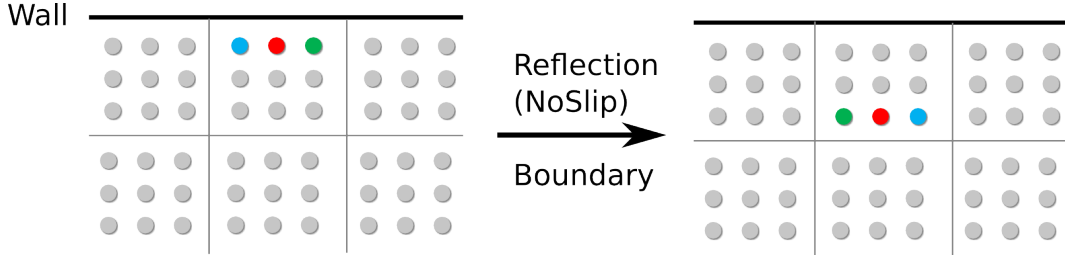

Figure 4: Streaming for reflection (no-slip) boundaries
- At the north and south boundaries, we apply reflection (no-slip) boundary conditions which enforce zero velocity at the wall. The update rule for these boundary cells is shown in Fig. 4 and is formally given as:
where \bar{q} is the opposite lattice direction of q , such that $\vec{c}_{\bar{q}} = -\vec{c}_q$. In this formula, the cell \vec{x} is located next to a boundary, and q is a direction from the fluid cell to the boundary, see Fig. 4.